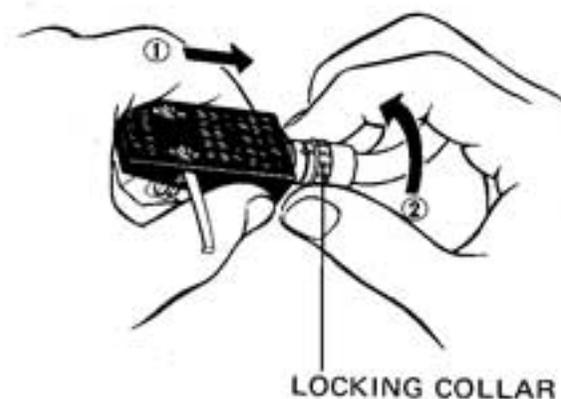

Fig. 8
5. Install headshell on tonearm according to Fig. 8 on the following page.
Insert the headshell into the tonearm sleeve and lock it in place by turning the locking collar (Fig. 8)